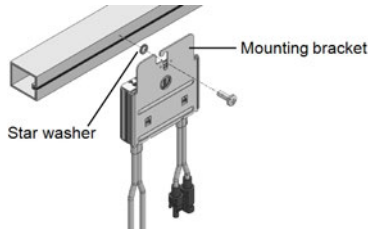

Figure 5: Power optimizer installation and grounding using a star washer
- Determine the power optimizer mounting location and use the power optimizer mounting brackets to attach the power optimizer to the support structure (See *Figure 5*). It is recommended to mount the power optimizer in a location protected from direct sunlight. For frame-mounted power optimizers follow the instructions supplied with the optimizers, or refer to https://www.solaredge.com/sites/default/files/installing_frame_mounted_power_optimizers.pdf.
- **For mounting on a grounded metal rail:** Use the provided 5/16" stainless steel grounding star washer between the railing and the flat side of the mounting bracket. The grounding washer should break through the anodize coating of the railing to ensure low resistive connection. Apply torque of 9.5 N*m / 7 lb*ft. See *Figure 5*.